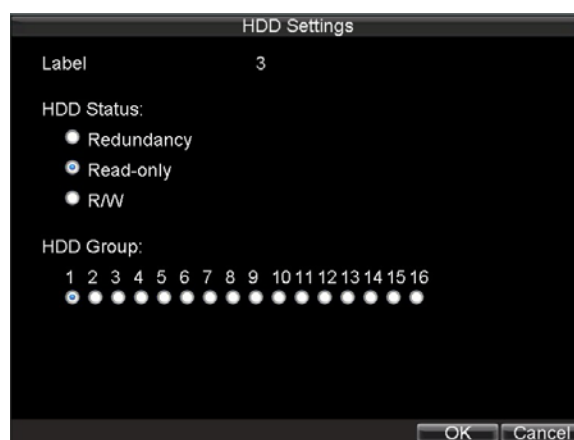

Figure 9. HDD Settings Menu
4. Click the Set button. This will take you to the HDD Settings menu, shown in Figure 9.